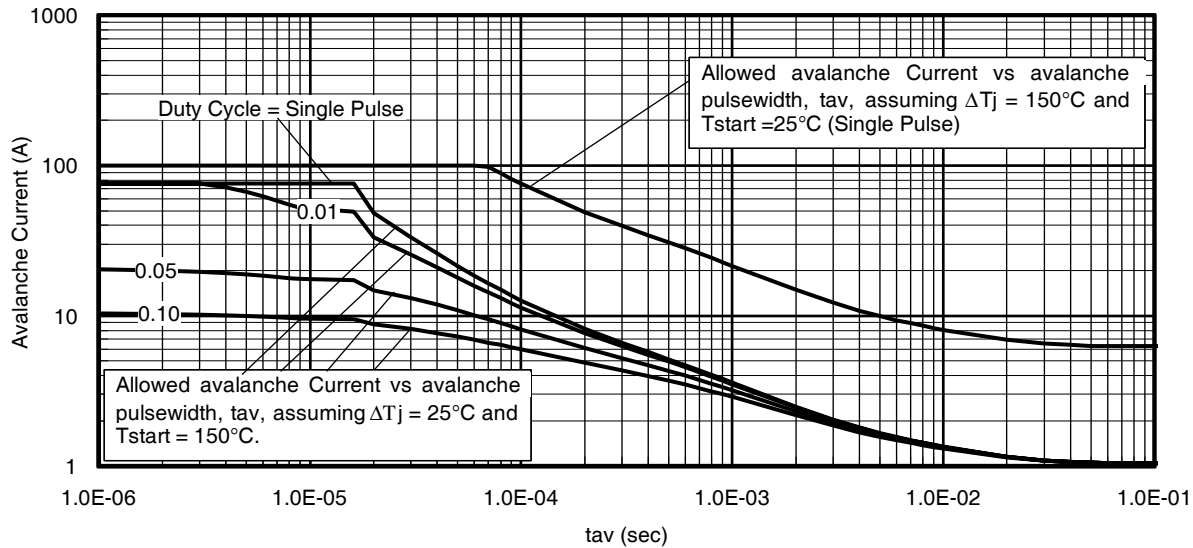

Fig 14. Typical Avalanche Current vs. Pulsewidth
**Notes on Repetitive Avalanche Curves , Figures 14, 15
7. ΔT = Allowable rise in junction temperature, not to exceed T_{jmax} (assumed as 25°C in Figure 14, 15).